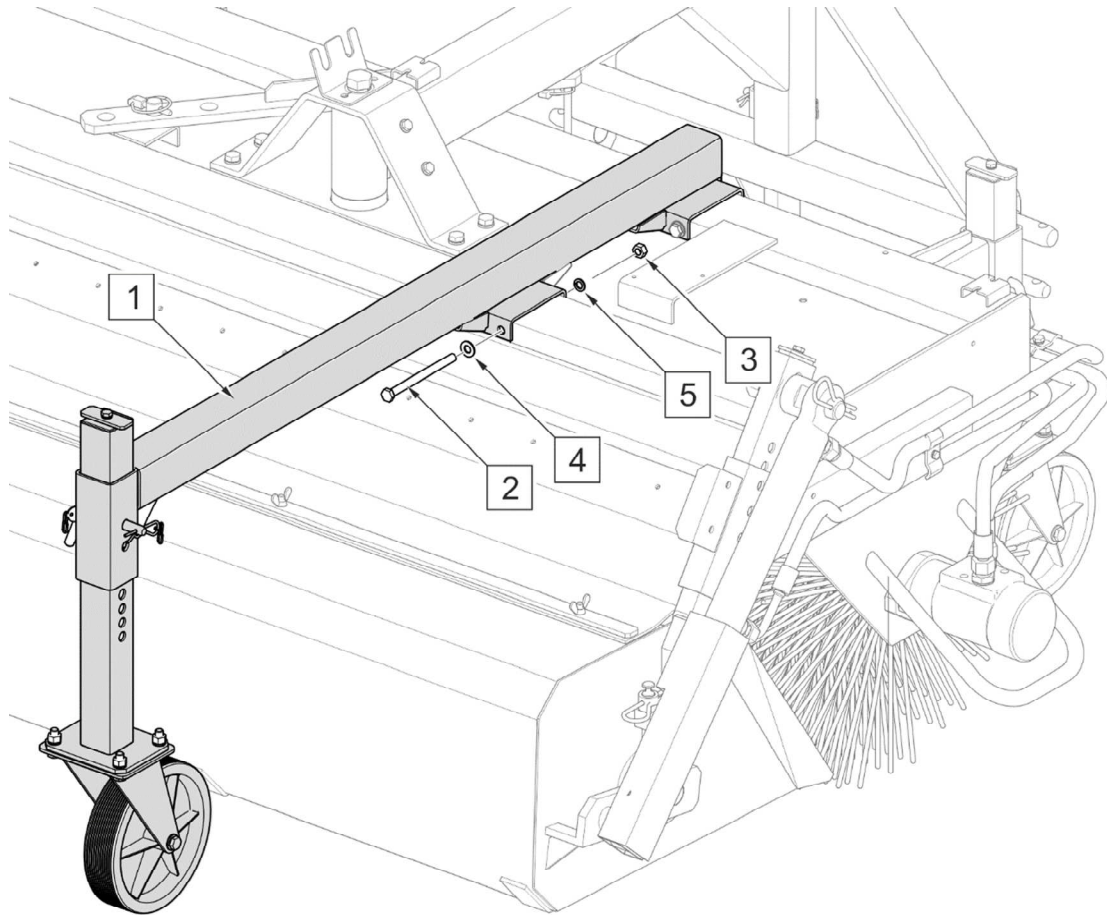

FIG. 4.6 Installing the front jockey wheel (option)
To improve ground surface tracking during sweeper operation in front of the carrying vehicle, attach additional jockey wheel to sweeper frame (*part number 12RPN-22.00.00*). Screw the bracket (1) with the jockey wheel (FIG. 4.6) down to the sweeper's frame using bolts (2), nuts (3) and washers (4) and (5). Set the additional jockey wheel at a proper height (see 5.1 ADJUSTMENT OF ROLLER BRUSH).